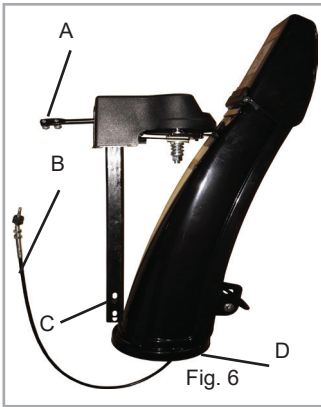

Fig. 6
- 2) Put chute to the machine, let chute end (fig.6 D) to the right position on chute seat (fig.7 B). Make sure the chute support bar (fig.6 C) is inserted into the seat (fig.7 A).
- 3) Fix the chute support bar (fig.6 C) to the seat (fig.7 A) by two bolts and nuts.
- 4) Insert the chute bar's end A (fig.8 A) to the hole in the panel, then connect the other end B (fig.8 B) with point A (fig.6 A) on the chute. And fix them with bolts.